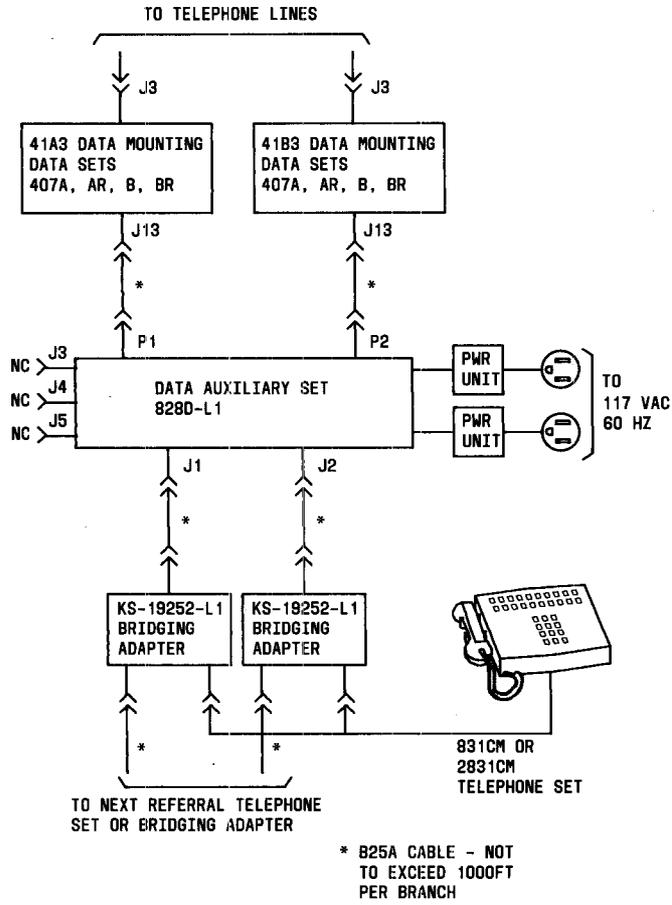

Fig. 6—407A, AR, B, or BR Data Station Arrangement Using 831CM or 2831CM Referral Telephone Set
4.07 Installation Using DS 407A, AR, B, or BR With 831CM or 2831CM Referral Telephone Set(s): Interconnect the DAS to the data station as shown in Fig. 6 using B25A cable. Mount the KS-19252-L1 bridging adapters and interconnect with the DAS using B25A cable. Connect the referral telephone set(s) to the bridging adapters.